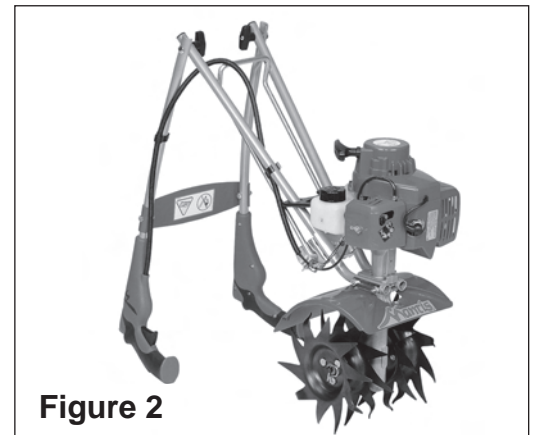

Figure 2
If you've seen other tillers, your MANTIS Tiller may surprise you. It tills best when you pull it backward! You see, when you pull your MANTIS Tiller backward, you give extra resistance to the tines, so they dig deeper. (**Figure 2**)
11. Store your Tiller in an upright position in a clean, dry place. You can store with the handles in an extended position or folded down. To fold the handles down, simply loosen the lower 2-pronged knobs until you can pivot the upper handles down. **(Figure 2)** Or it can be hung using the handle brace.
case and the worm gear housing. **(Figure 2)** Make sure you tighten the flange bolt!